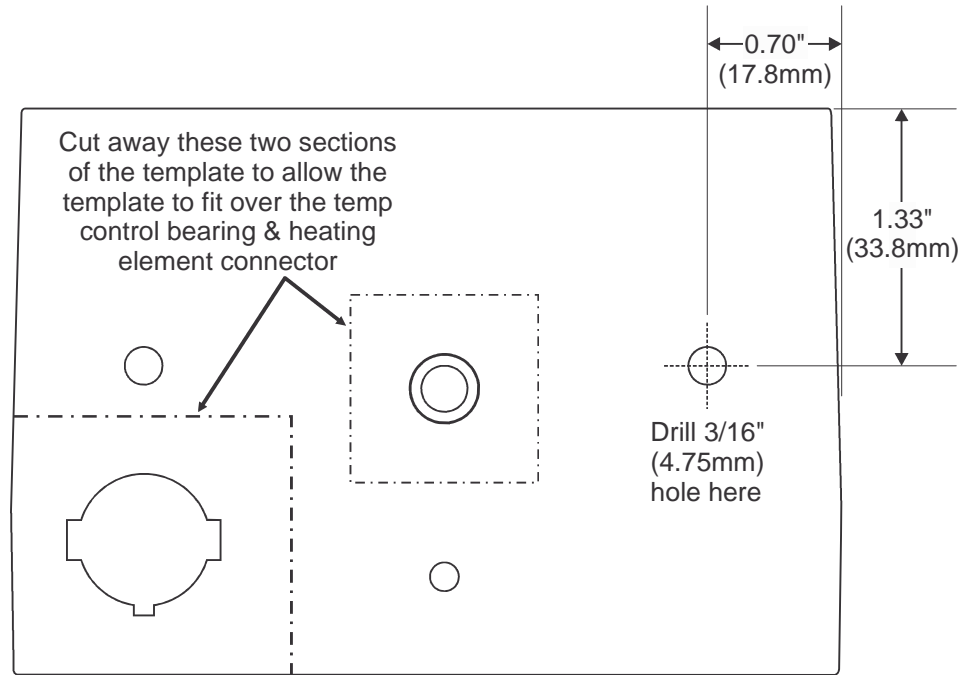

Figure 1.
4. Using Figure 1 (see next page), a scale drawing of the front panel, as an overlay of the drilling template, lay the template onto the front panel and CAREFULLY center punch and then drill a 3/16" (4.75mm) hole. Then use a much larger (about 1/2" / 13mm) bit (hand-held), or a hand reamer bit, to 'hollow' out a bit of the back side of the hole just drilled to allow the new LED to extend out the front of the panel just a small distance.
Figure 1 - Cut out the template at right. Then cut out the two marked areas so the template will clear the temp. control bearing and the heating element jack when laid on top of the front panel. Tape the template into place on the **FRONT SIDE** of the front panel. **CAREFULLY** center punch the point where the hole is to be drilled. Drill a 3/16" (4.75mm) hole from the front. You may want to first drill a smaller 'pilot' hole and work up, in steps, to the larger final hole diameter. This will often help reduce the chances of paint chipping, etc. Then, use a larger (hand-held) bit (or a reamer) from the back side to 'hollow out' the back of the hole just enough to allow the tip of the new LED to extend out the front of the front panel to the same extent as that of the red LED. If the green LED is allowed to protrude a bit farther than the red LED, it will be more readily noticed as you use the device in a normal working environment.